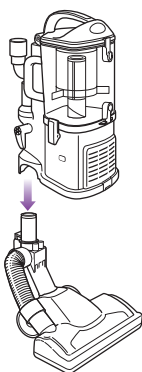

Fig. 9
- 2** Align the tube of the floor nozzle with the tube on the detachable canister and lower until you hear the two pieces click into place. **(Fig. 9)**
- 1 Separate the detachable canister from the floor nozzle. (See page 8, Fig. 9.)